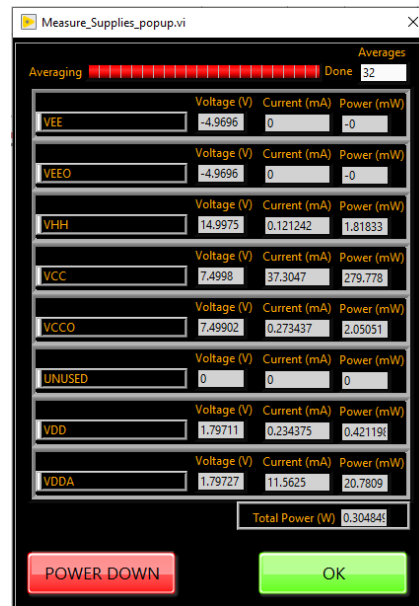

Figure 8: Supply Settings and Measurements
- Each of the supplies is pre-programmed with the nominal voltage value for each of the supplies. Both before and after the device is powered-up, the supply values can be changed by entering a new value in the “Set Voltage (V)” dialog box of each individual supply. Enter a new value and Hit the Enter key. If an invalid number is written to one of the Set Voltage dialog boxes, the dialog box will flash red and set the closest valid value.
- Figure 8 below open. The measured voltage, current, and power for each supply are displayed.